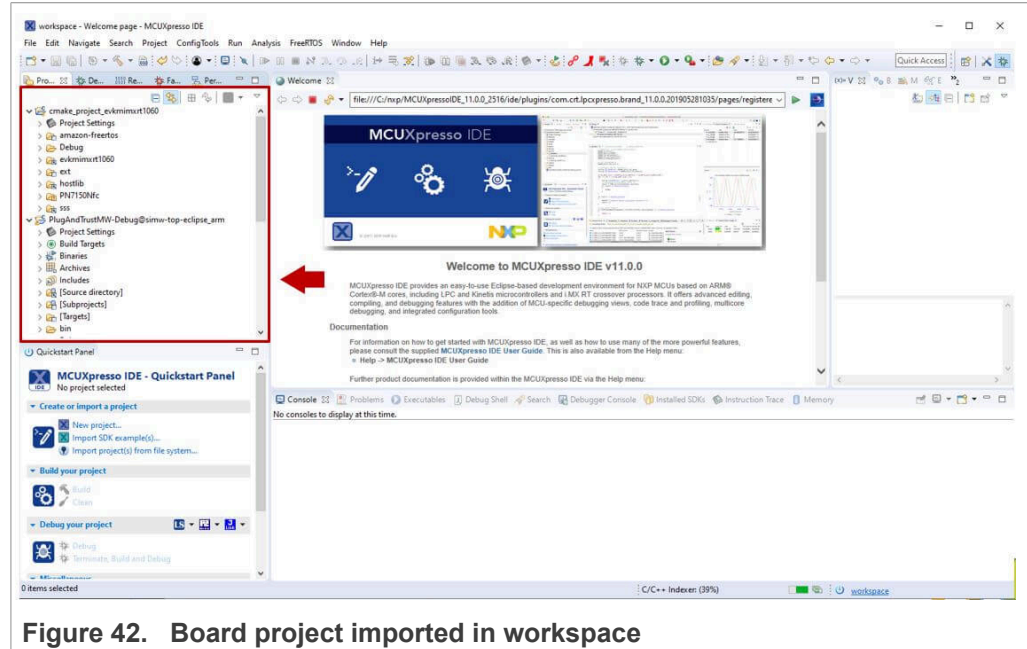

Figure 42. Board project imported in workspace
- Both The *PlugAndTrustMW* and *cmake_projects_evkbimxrt1060* (or *cmake_projects_evkbimxrt1170*) projects should now be imported in your workspace as shown in Figure 42: